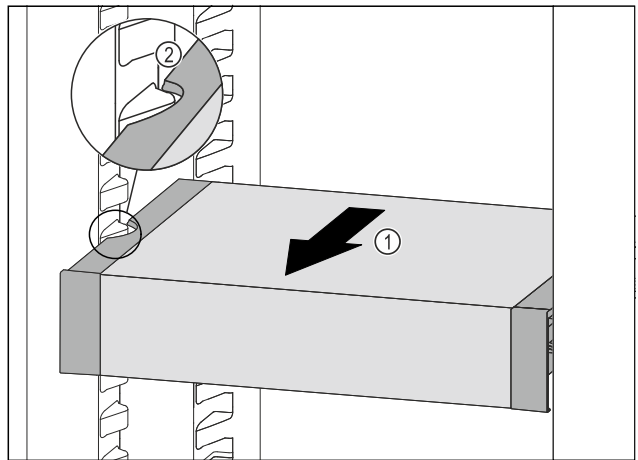

Fig. 112
- ▶ Pull VarioSafe forwards Fig. 112 (1) until the recesses in the side of the VarioSafe are at the level of the support rib in the fridge section. Fig. 112 (2)